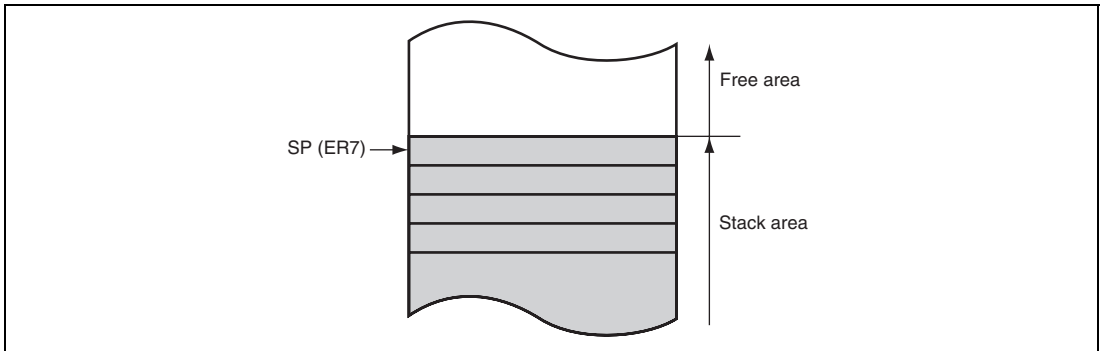

Figure 2.11 Stack
General register ER7 has the function of stack pointer (SP) in addition to its general-register function, and is used implicitly in exception handling and subroutine branches. Figure 2.11 shows the stack.